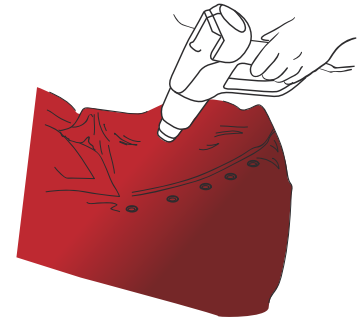

Figure 22
- › Then heat each rivet again to 80 °C - 90 °C (176 °F - 194 °F). (FIG. 22)